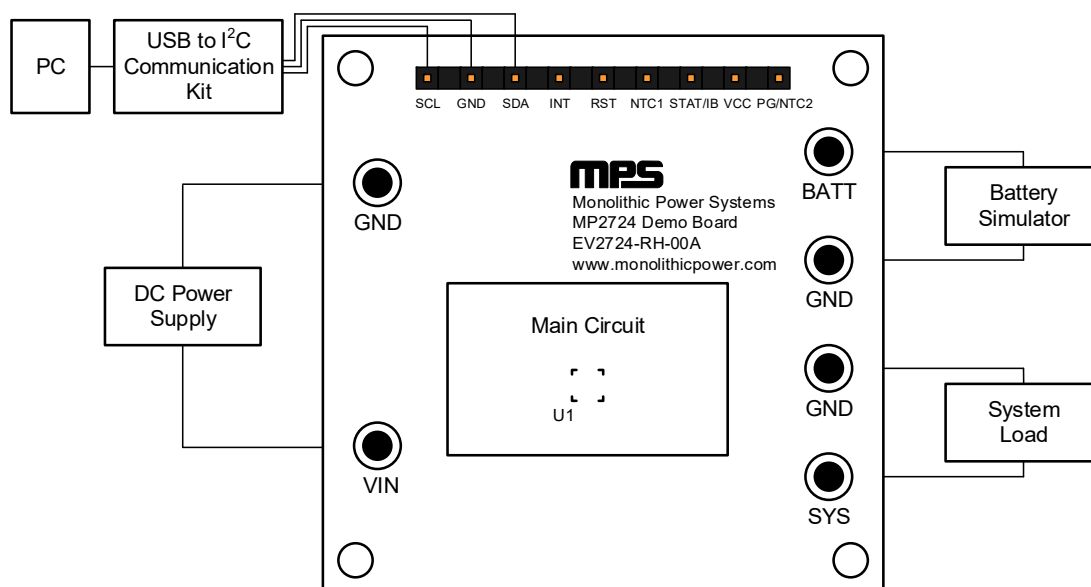

Figure 2: Measurement Equipment Set-Up
3. Configure the test set-up for the MP2724 (see Figure 2 on page 3).